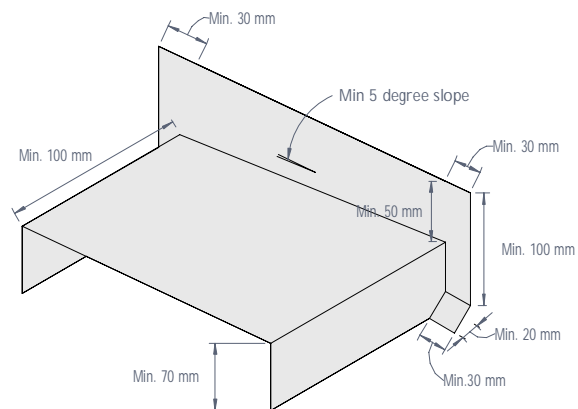

Figure 35: Corrosion resistant saddle flashing
- 2) Flush capping detail (Figure 35) will involve further maintenance requirement in order to maintain the seal at the interface with the panel. Any deterioration of the sealant may result in panel staining, and will compromise the weatherproofing performance. Use UV stable and resistant external grade sealant.